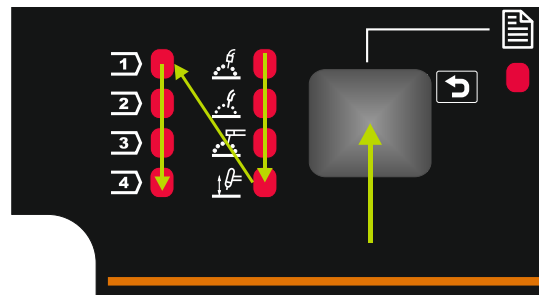

Figure 6.
- Again, press the Left Button [29] the weld program indicator (30 or 31) will jump to the next in the sequence shown in Figure 6.